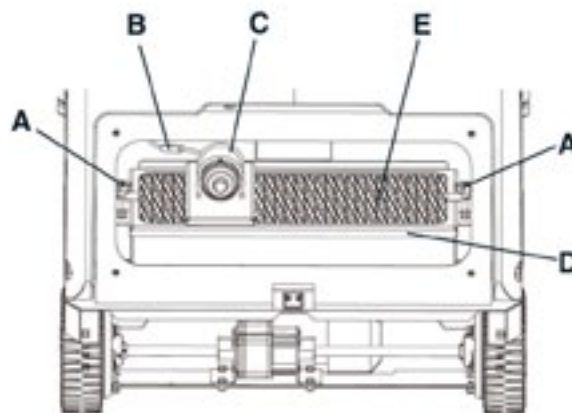

Figure9
- 1) Drive the machine on a level floor and release the pedal (2) and stop the machine.
- 2) Turn the ignition key (71) to "0".
- 3) Disengage the hook (29) by pulling its lower end.
- 4) Remove the hopper (28) by using the handle (30) and by using hand and by disengaging it from the inner guides.
- 5) Unscrew the knobs (37) and remove the filter compartment cover (36).
- 6) Loosen the knobs (A, Fig.9).
- 7) Disconnect the connector (B, Fig.9) from the filter shaker motor (C).
- 8) Remove the dust filter fastening frame (D, Fig.9).
- 9) Remove the dust filter (E, Fig. 9).
- Install the filter (E, Fig. 9) with the wire gauze (B, Fig. 10) facing upwards.